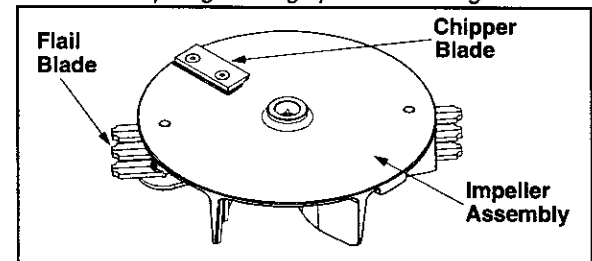

Figure 20
**NOTE:** Make certain chipper blade is reassembled with the sharp edge facing upward. See Figure 20.